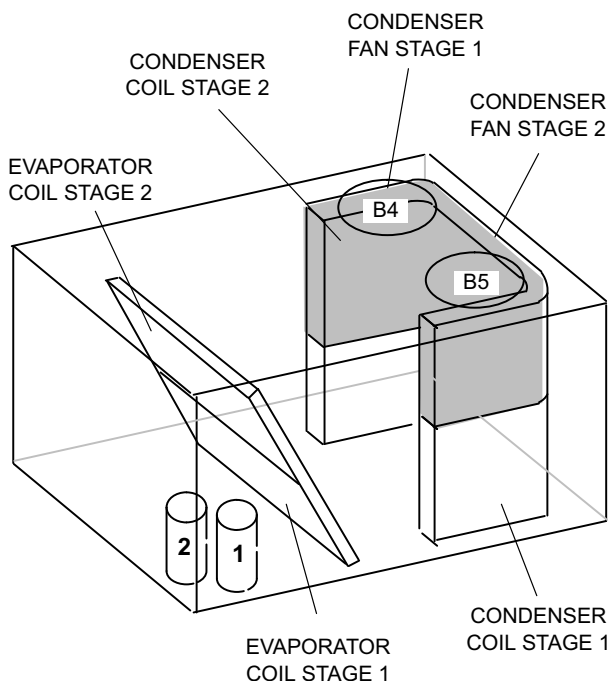

FIGURE 25
- 3- Ultra high efficiency units have a tandem refrigerant circuit. High efficiency units have two typical circuits. See figure 25, 26, 27, or 28.